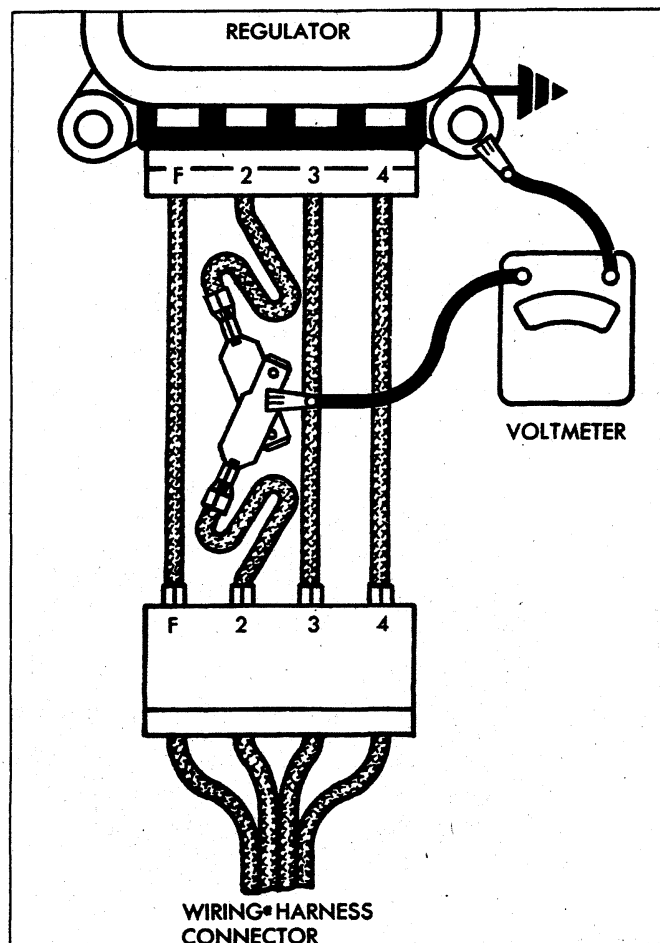

Fig. 11c—Testing Field Relay
1. Connect a voltmeter into the system at the regulator No. 2 terminal to ground (fig. 11c).